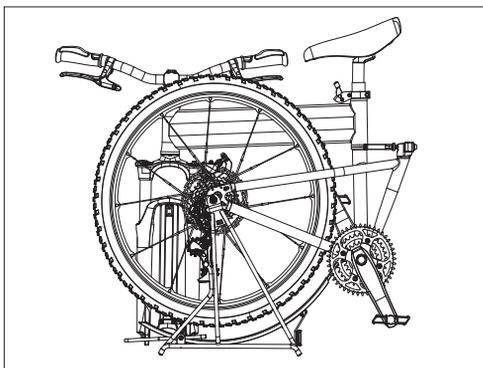

Fig. 44: Correct bike position with RackStand.
2. Slide the fender tail to a length that will hold the folded bike with the seat tube perpendicular to the ground (Fig 44). The fender will need to be longer for a mountain bike than a pavement bike.